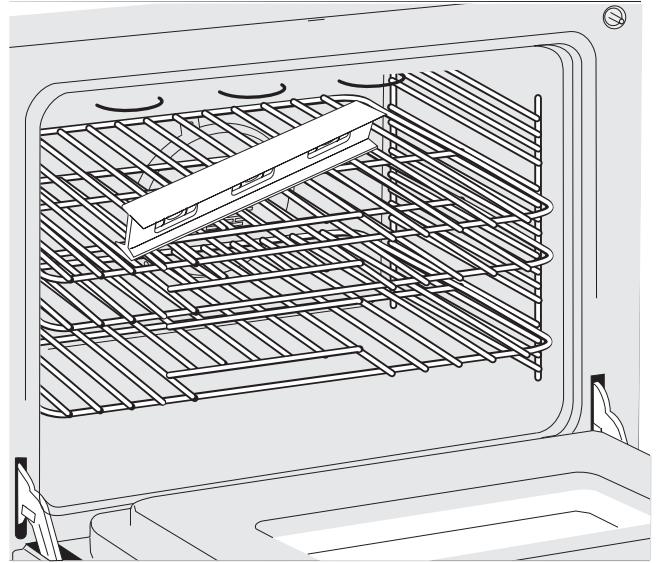

Figure 12: Use the oven racks to level appliance
2. Place a level on the rack (Figure 12). Take two readings with the level placed diagonally in one direction and then the other.